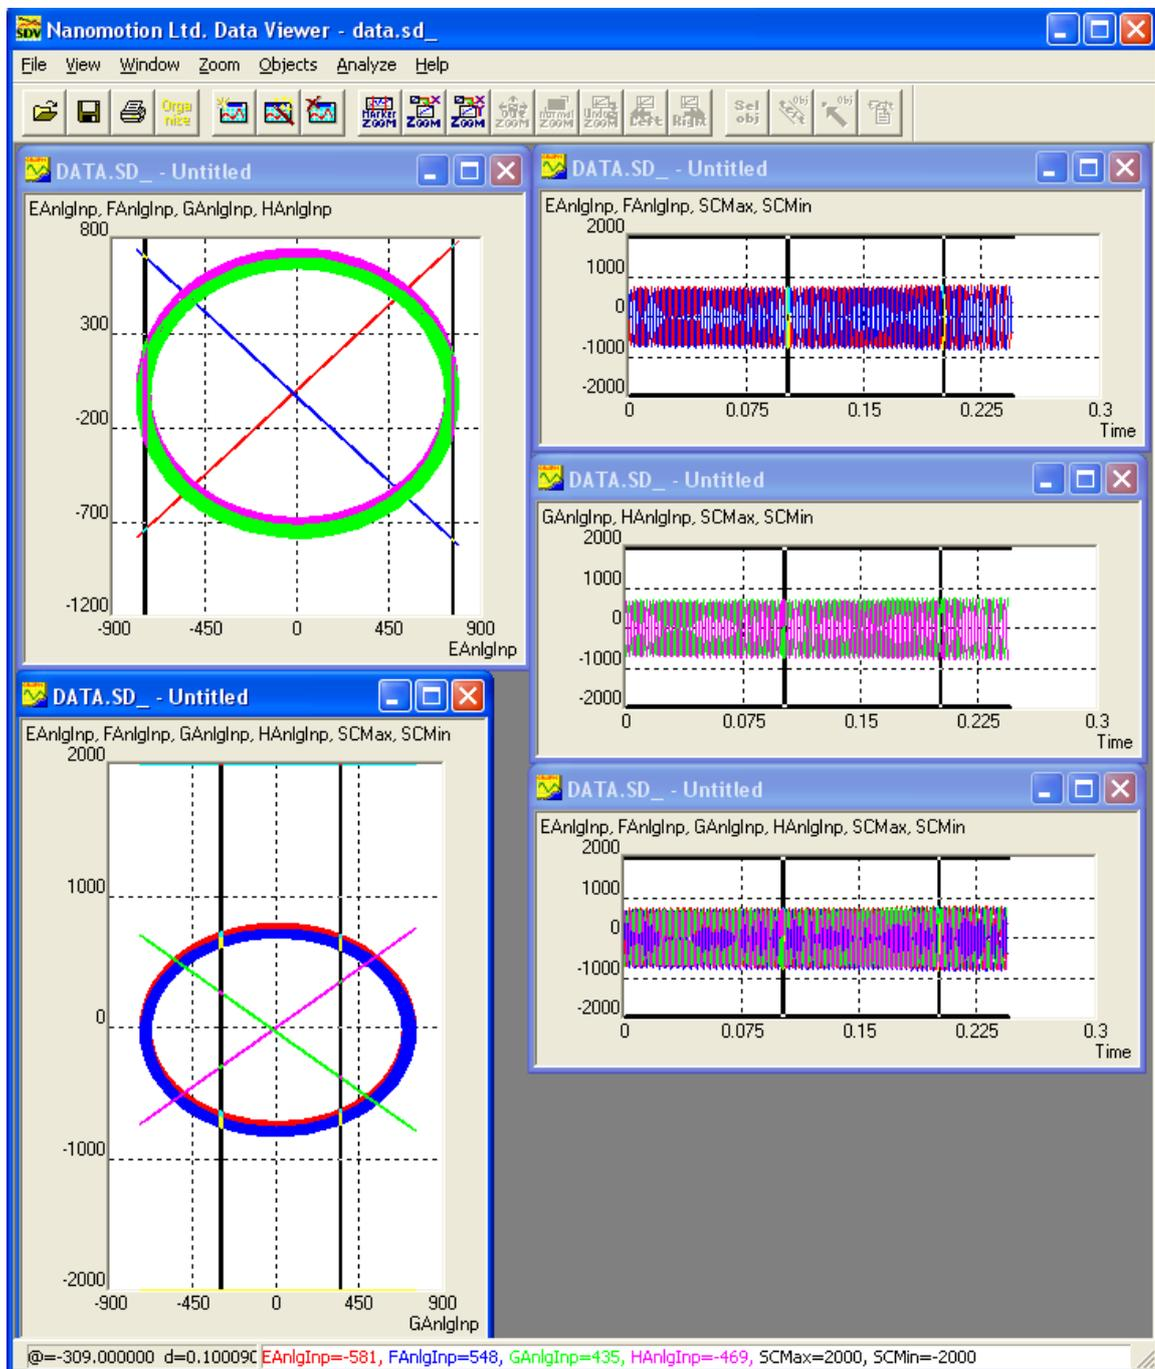

Figure 19: The Data Viewer Windows
11. Observe the both graphs located on the left pane of the Data Viewer window see Figure 19. The goal is to adjust the Sin/Cos parameters to get both circles centered around the "0".
- ◆ If the radius (see Figure 19) after the Gain of 4, is less than 1000 counts, it is recommended to adjust the clearance between the encoder read head and the strip to get maximum amplitude, before increasing the Gain value.